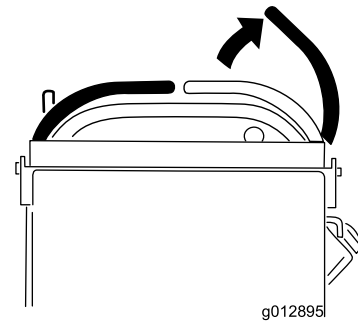

Figure 11
- Move the motion-control levers to NEUTRAL and move the right motion-control lever into the NEUTRAL-LOCK position (Figure 11).